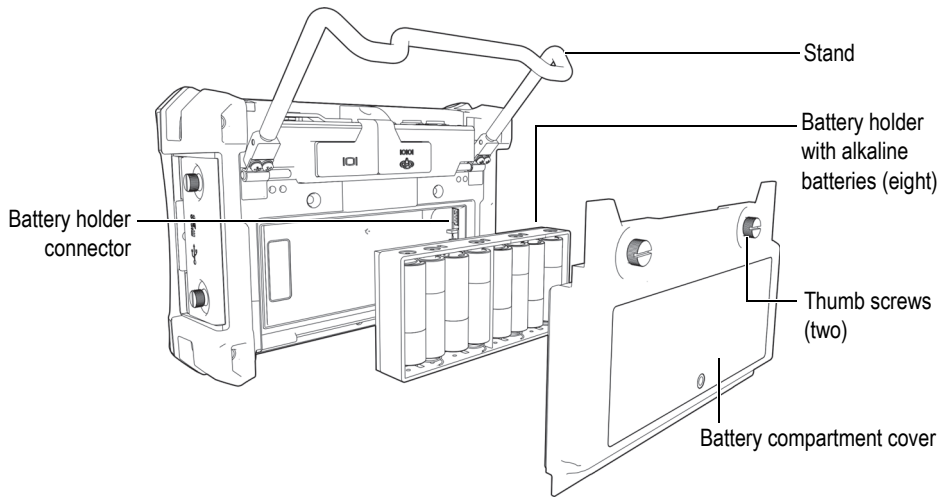

Figure 2-11 The alkaline battery holder
1. Unfold the BondMaster 600 stand (see Figure 2-11 on page 44).